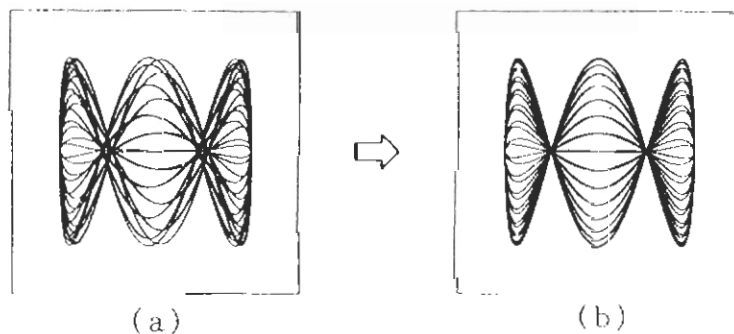

Fig. 12-4 Pilot Signal and RDS Subcarrier Phase Calibration
Adjust RDS SUBCARRIER PHASE ④⑤ to change the display from Fig. 12-4 (a) to that of (b).